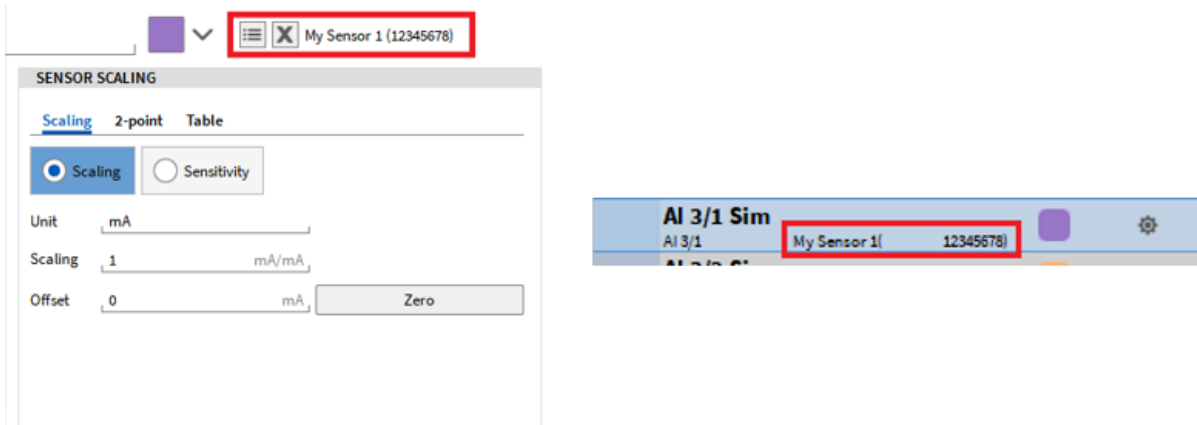

Fig. 6.16: Name of chosen sensor for the channel seen in the channel list and channel settings
- The parameters of the sensor will be applied on the channel. This can be recognized by the name of the sensor, which will be displayed in the channel settings and in the channel, list seen in Fig. 6.16.
- To remove an applied sensor from a channel simply click on the *X* button next to the sensor name in the channel settings (see Fig. 6.16).